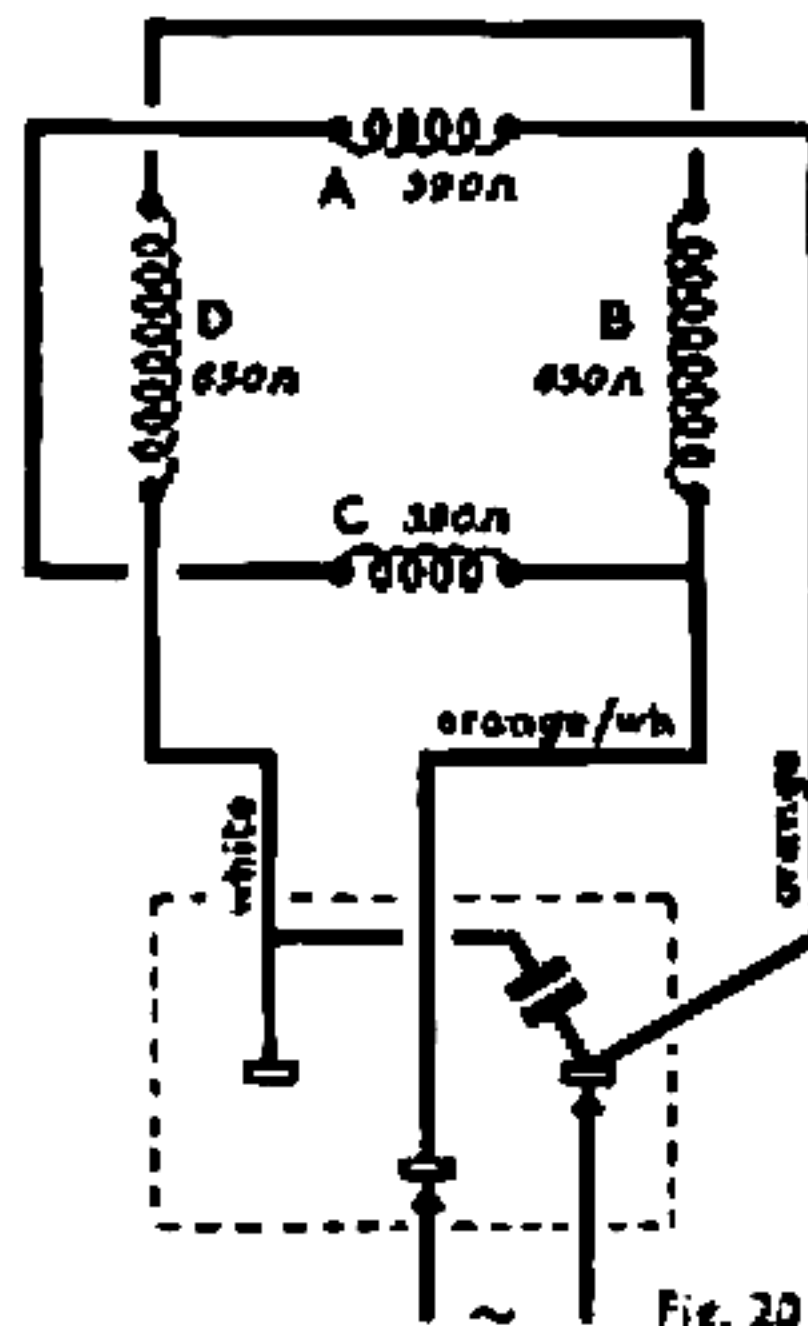

Fig. 20
* For particulars of Motor No. 26200D see Fig. 20.